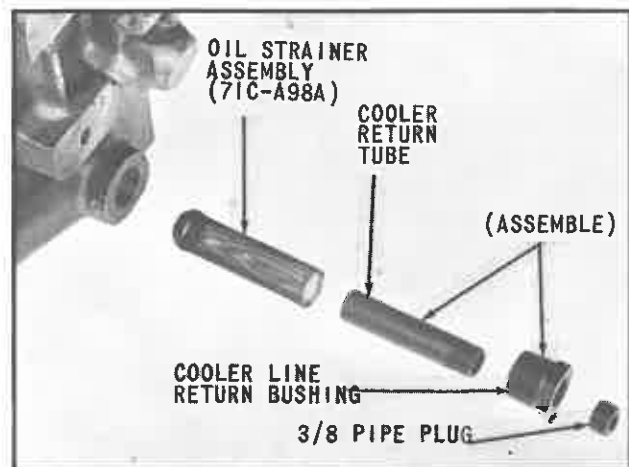

Fig. 9 Installation of Oil Strainer with Cooler Return bushing Assembly
5. The new reduction transmission oil circulation system returns the oil to the cooler return bushing at the front of the forward and reverse transmission case in the same manner that has been used on the Model 72C direct drive. The oil strainer assembly and related parts required in this new system are illustrated in (Fig. 9).